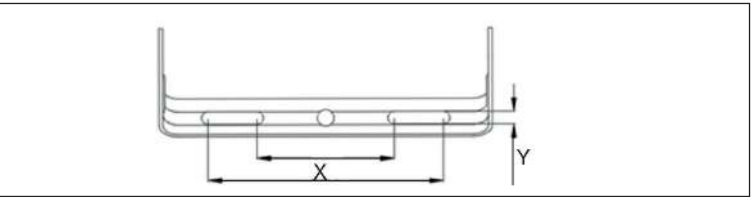

Fig. 5: Borehole distance
- 2. Open the M16 cable gland by turning it anticlockwise until the terminal block is exposed as in fig. 5.